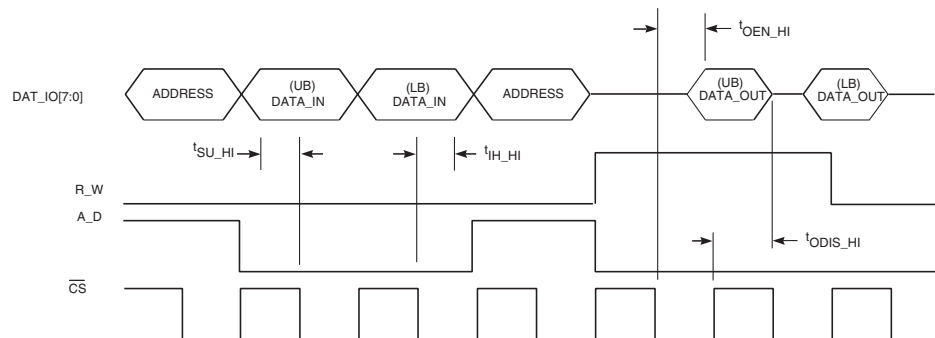

Figure 3-10: Write Cycle to the Parallel Interface
A write cycle to the parallel interface is shown in Figure 3-10: Write Cycle to the Parallel Interface. First an 8-bit address word is provided to the DAT_IO bus by asserting the R_W pin to LOW and the A_D pin to HIGH. The MSB of the address word contains an auto-update flag, which allows automatic configuration of predefined registers. The 5 LSB's of the address word contain the address location for the read or write operation. The remaining address bits DAT_IO[6:5] are reserved. The address word is registered on the falling edge of CS. Following this, the A_D pin is driven LOW and two data words are sent upper byte (UB) word first and are each clocked in on the falling edge of CS. Two 8-bit data words must follow each address word to occupy each 16-bit parameter, which are defined in Figure 3-11: Host Interface Register Allocation.